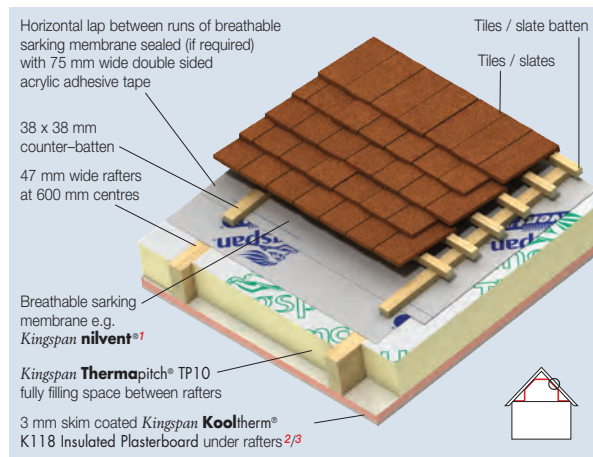

Figure 1a
NB When calculating U-values to BS EN ISO 6946: 2017 / I.S. EN ISO 6946: 2007, the type of mechanical fixing used may change the thickness of insulation required. The effect of fixings for Kingspan **Kooltherm**® K118 Insulated Plasterboard in the U-value calculations for Figures 1a, 1b, 1c, 1d, 2a, 2b, 4a & 4c is insignificant as the insulation layer penetrated is not the main insulation layer. The U-value calculations for Figures 3a & 3b assume that over rafter layers of insulation are fixed using stainless steel fixings with a cross sectional area 7.90 mm², with 3.7 fasteners per m² (insulant thickness 0–40 mm), 6.2 per m² (insulant thickness 41–60 mm), 8.3 per m² (insulant thickness 61–80 mm) and 10.0 per m² (insulant thickness 81–100 mm). The U-value calculations for Figures 3a & 3b also assume that over rafter layers of insulation are fixed using stainless steel fixings with a cross sectional area 9.1 mm², with 11.1 fasteners per m² (insulant thickness 101–125 mm). Please contact the Kingspan Insulation Technical Service Department (see rear cover) for project calculations.
- ¹ In Figures 1a & 3a the breathable sarking membrane can be placed over the counter-battens, draped to provide for drainage and overlain with tile / slate battens. This will yield a marginally better U-value but it will be more difficult to seal the breathable sarking membrane effectively.